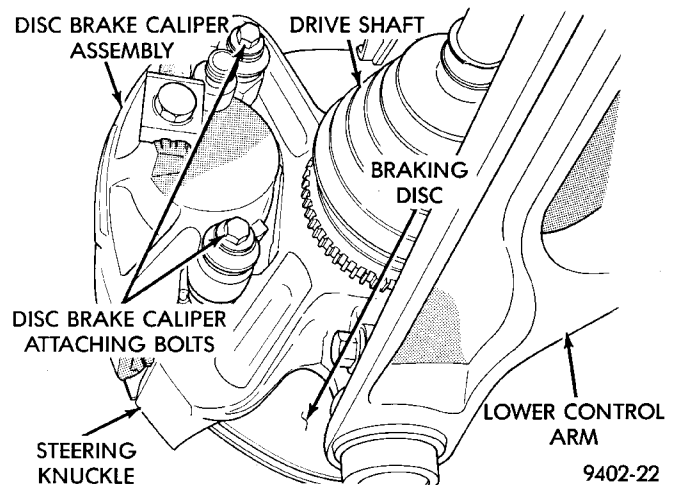

Fig. 22 Front Disc Brake Caliper Assembly Bolts
(11) Install caliper assembly to steering knuckle bolts (Fig. 22). Tighten to 31 N·m (23 ft. lbs.).